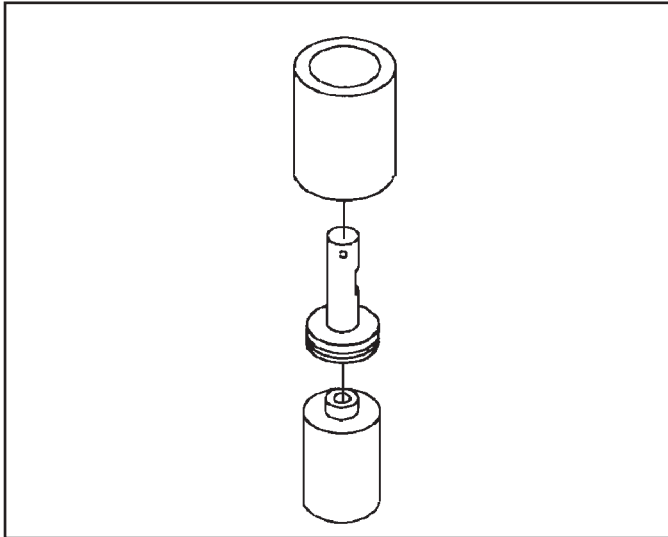

Figure 200
21. Once the sealing ring has been installed, the sealing ring will need to be resized (See Figure 200).